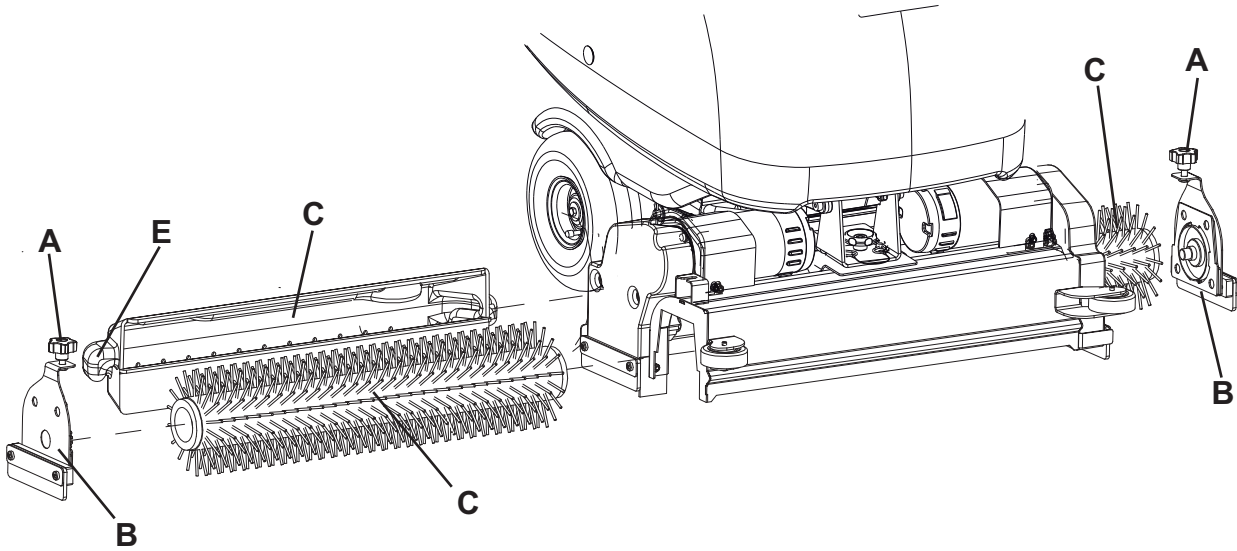

Figure 3
1. Turn the ignition key (80) to "I".
2. Lift the cylindrical brush deck by pressing the switch (71).
3. Turn the ignition key (80) to "0".
4. Remove the handwheels (A, Fig. 3) and the lids (B) by pushing them downwards and pressing on the handwheels.
5. Install the cylindrical brushes (C).